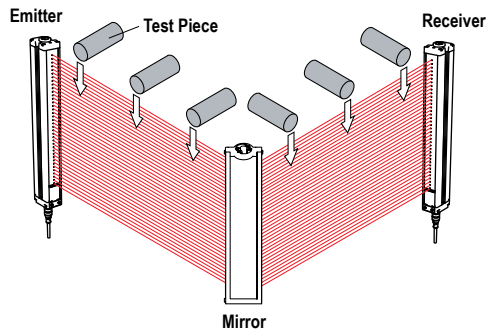

Figure 27. Trip Test with Corner Mirror
- If mirrors are used in the application: Test the defined area on each leg of the sensing path (for example, emitter to mirror, between mirror and receiver, see Figure 27 on page 34).